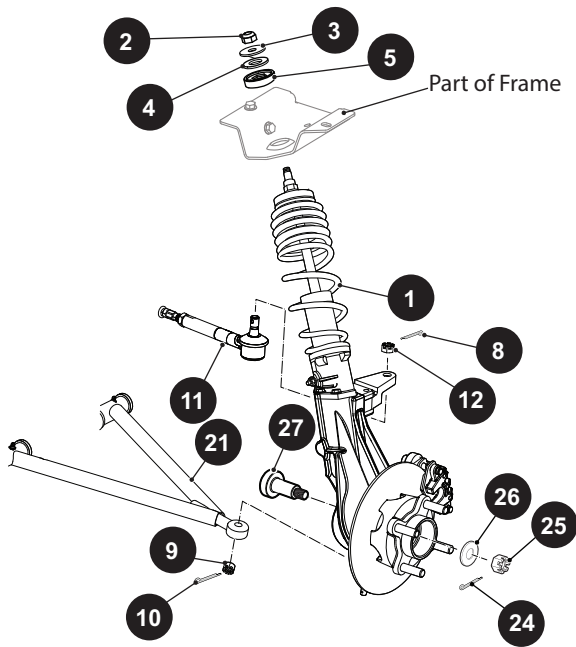
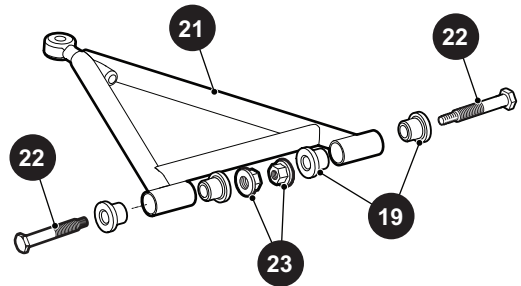

Fig. 1 Front Suspension
Fig. 2 Control Arm
4. Remove the cotter pin (8) and castellated nut (12) at the end of the steering rack assembly (11) (Ref. Fig. 1).
5. Remove the cotter pin (24), castellated nut (25), and flat washer (26) from the axle (27).
6. Remove the cotter pin (10) and nut (9) from the bottom of the front strut assembly (1) at the control arm assembly (21).
8. Remove the front axle (27) from the front strut assembly.
9. Remove the nut (2), washers (3, 4), and strut bushing (5) that secures the top of the strut assembly (1) to the vehicle frame.
3. Remove the cotter pin (10) and castellated nut (9) from the lower ball joint at the control arm assembly (21) (Ref. Fig. 1).
4. If necessary, use a ball joint separator to separate the control arm (21) from the strut assembly (1).
5. Remove the bolt (22), flanged bushings (19), and lock nuts (23)
6. To remove the control arm (21) from the vehicle (Ref. Fig. 2).